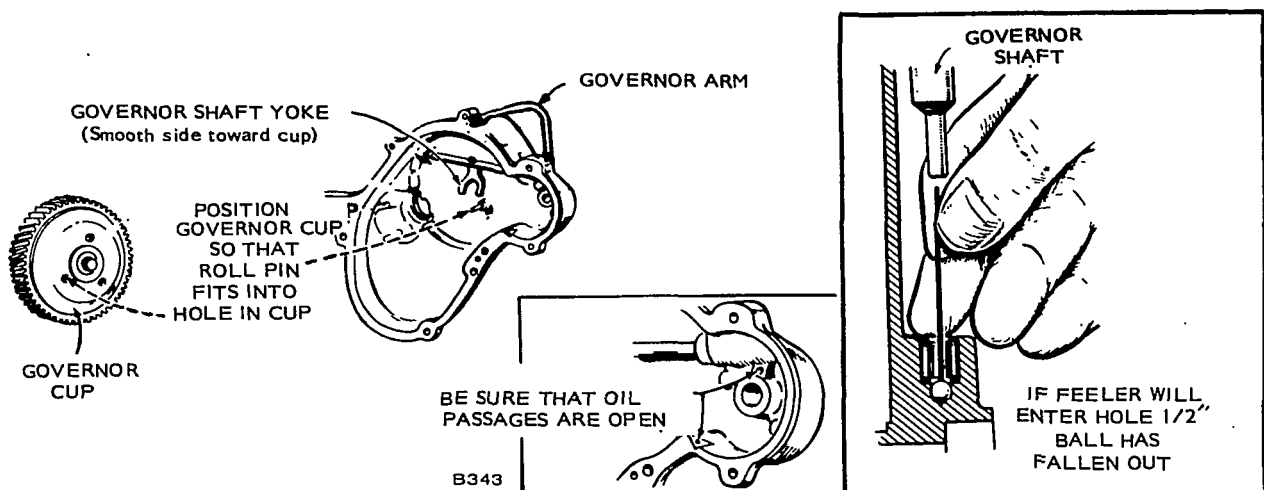

FIGURE 55. GEAR COVER ASSEMBLY
**Governor Shaft:** The governor shaft is supported by two sets of needle bearings. To remove the shaft, remove the yoke and pull the shaft from the gear cover. If the shaft is binding, clean the bearings. If loose, replace the bearings. To remove the larger bearing, drive both bearing and oil seal out from the outside of the gear cover. Remove the smaller bearing with an Easy-Out or similar tool. Press new bearings and oil seal into place. See Figure 55.
1. Work governor shaft to check for binding and see that the governor shaft end-thrust ball is in place, Figure 55.
3. Turn governor cup so stop pin in gear cover will fit into one of the holes in the cup surface (Figure 55). Measure distance from end of stop pin to mounting face of cover. It should be  $25/32$  inch (19.844 mm). If it is not, replace pin. Pin should be positioned with open end facing crankshaft seal.